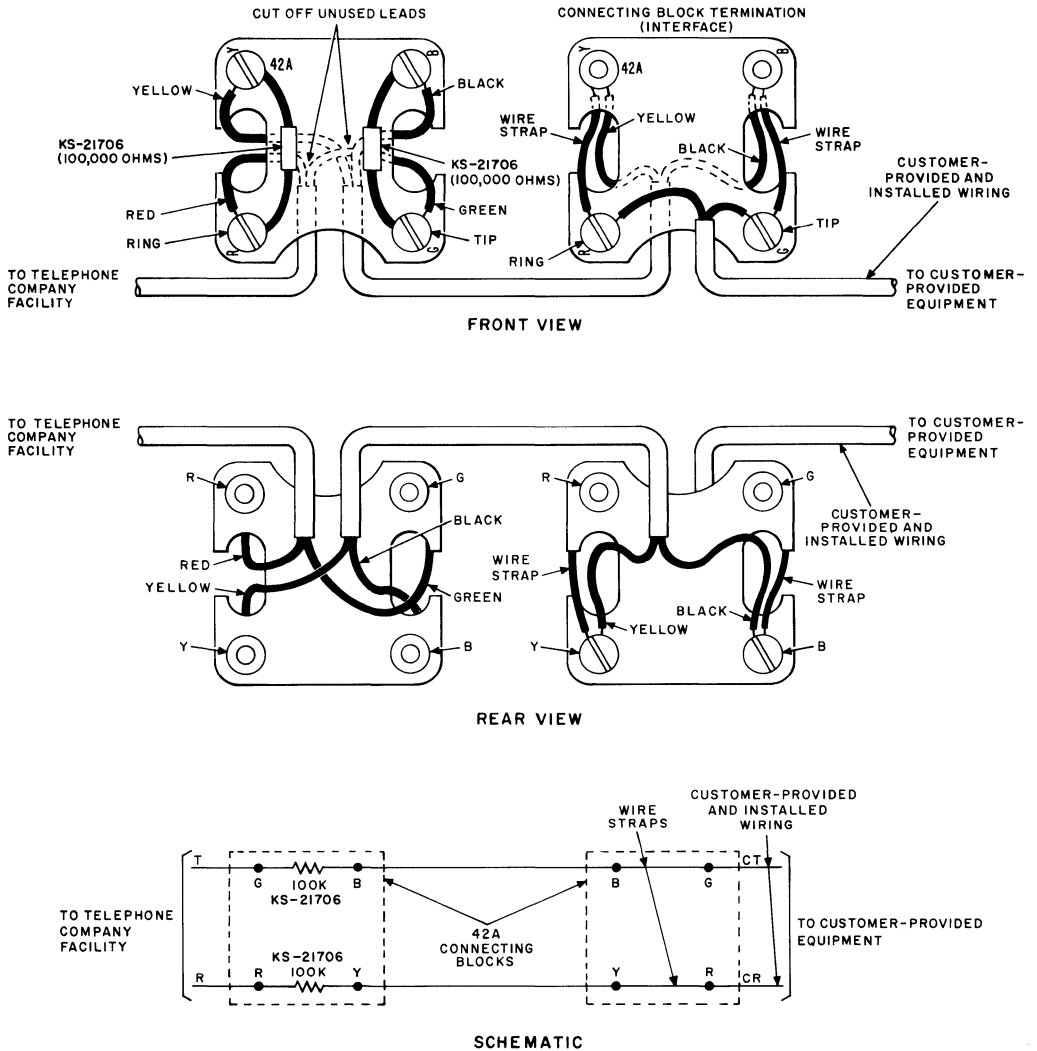
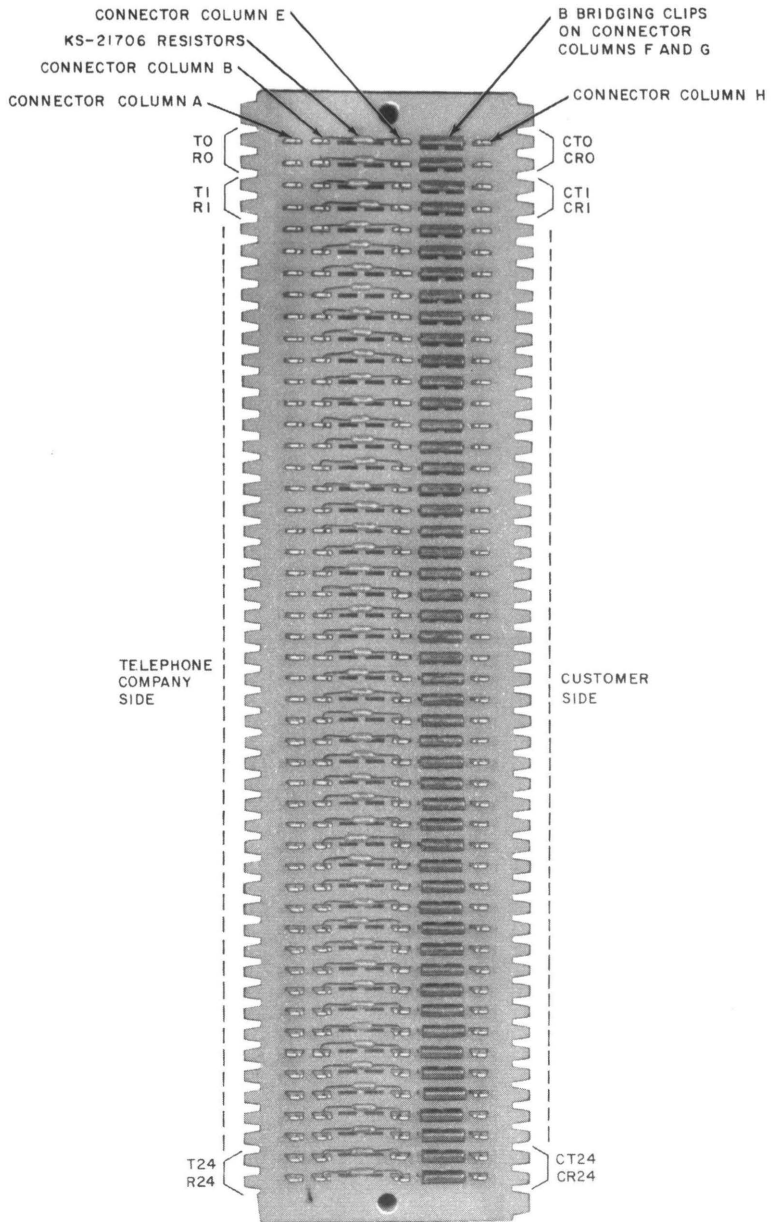

Fig. 2—PCA HZM for Small Installations (Five or Less) Using 42A Connecting Blocks
Fig. 3—125A IU
- To include information on the 125A interconnecting unit (IU) which replaces the J53050H, List 1 IU, now rated MD
1.03 The equipment used to implement HZM is determined by the size of the specific installation. When the installation requires five or less arrangements, 42A connecting blocks may be used to provide the connecting arrangements as shown in Fig. 2; when more than five are required, the 125A IU (Fig. 3) should be used to provide the connecting arrangements. Each IU provides 25 circuits.
- (1) For small installations, nominally five circuits or less (see Fig. 2):
- (2) For large installations, nominally more than five circuits (see Fig. 3 and 4):
3.03 When the 42A blocks are used, connect as shown in Fig. 2. Be sure to observe the proper color codes. One block is used to terminate the T and R leads from the telephone company facilities and to mount the line resistors, while the other block is used to interface with the CP equipment. Note that the screws in terminals Y and B are reversed in the block. Connections from the CP equipment are made directly to screw terminals G and R on the interface block.
3.04 When the 125A IU is used, terminate the leads from the telephone company facilities on the left side of the block (Fig. 3 and 4). Print or stencil the lead designations on each side of the IU. Connections from the CP equipment are made directly to the H column of connectors on the IU.
5.04 Tests—PCA HZM Using 125A IU (Fig. 3 and 4):
6.03 For connecting information on PCA HZM using the 125A IU, refer to Fig. 3 and 4.